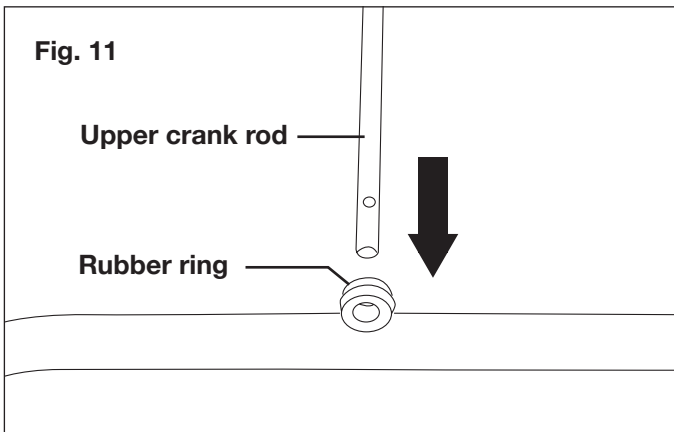

Fig. 11
- Slide the upper crank rod through the rubber ring located on the middle frame (Fig. 11).